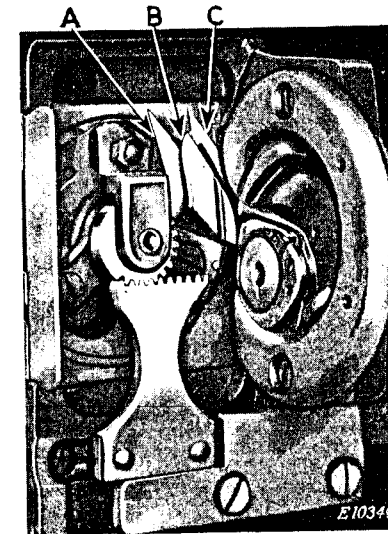

Fig. 23
**Fig. 23** shows the position of the thread cutting knives **A** and **B**, and the barbed spring **C**, at the instant of cutting the threads; **A** is the shuttle thread knife and **B** the needle thread knife; there is an immediate slight retraction from this cutting position owing to the recovery by the parts from the overthrow which causes the knives to cut the threads.